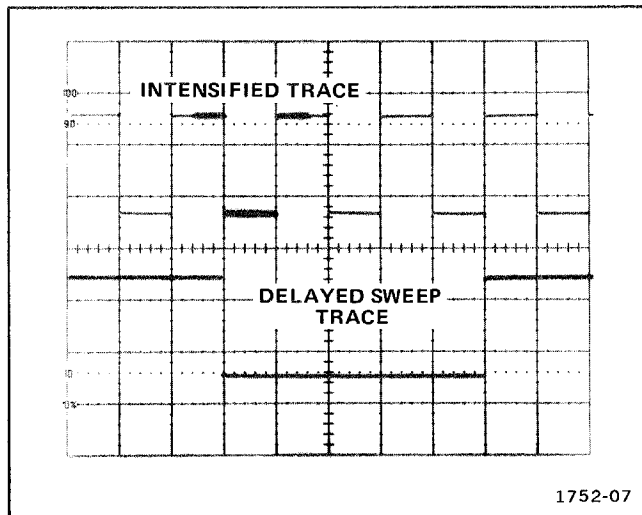

Fig. 1-6. Typical alternate sweep display.
**Alternate Sweep Display.** To select the Alternate display mode, pull out the DLY'D Time/Division knob and rotate it to a desired sweep rate faster than the TIME/DIV OR DLY TIME switch setting. In this mode, both an intensified sweep and a delayed sweep are displayed (see Fig. 1-6).